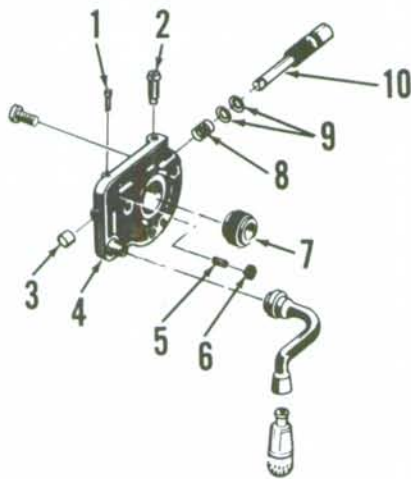

Fig. H17—Exploded view of oil pump used on Models 40 Rancher, 44, 340SE, 340SG, 444SE and 444SG.
Fig. H12—Exploded view of engine. Oil pump drive gear (8) is used on Models 140S, 240S, 240SE and 240SG. Note oil pump gear in Fig. H17 used on all other models.
Oil pump output on 140S, 240S, 240SE and 240SG is not adjustable. Oil pump output on all other models is adjusted by exchanging cam screw (2—Fig. H17). Cam screw is available from the manufacturer in three color-coded sizes. A white cam screw indicates minimum oil output, a plain cam screw indicates standard oil output while a green cam screw indicates maximum oil output. Refer to OIL PUMP section for replacement procedure.
Automatic oil pump used on all other models is shown in Fig. H17. Oil pump output is adjusted by exchanging cam screw (2—Fig. H17). Cam screw is available from the manufacturer in three color-coded sizes. A white cam screw indicates minimum oil output, a plain cam screw indicates standard oil output while a green cam screw indicates maximum oil output. Remove clutch for access to oil pump. Unscrew cam screw (2) before withdrawing pump plunger (10). Pump plunger (10) is driven by worm gear (7) on crankshaft. A special tool is